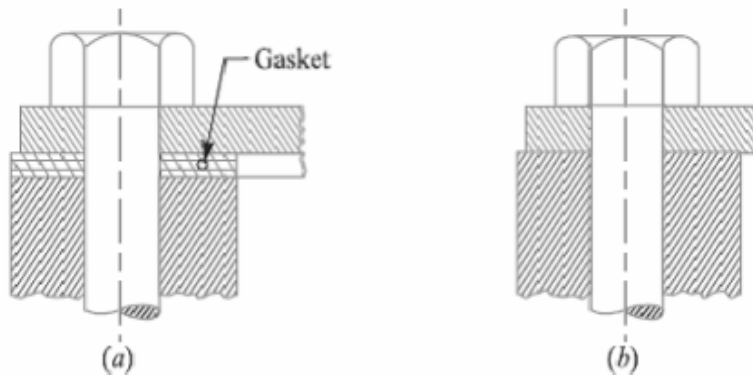

Fig.1
When the connected members are very yielding as compared with the bolt, which is a soft gasket, as shown in Fig. 1 (a), then the resultant load on the bolt is approximately equal to the sum of the initial tension and the external load. On the other hand, if the bolt is very yielding as compared with the connected members, as shown in Fig. 1(b), then the resultant load will be either the initial tension or the external load, whichever is greater. The actual conditions usually lie between the two extremes. In order to determine the resultant axial load (P) on the bolt, the following equation may be used :